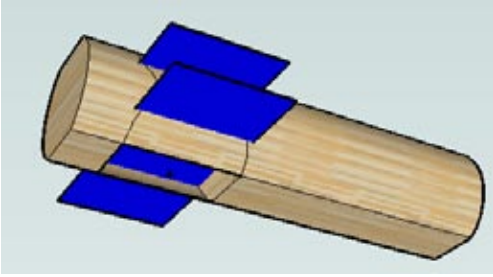

Figure 3-73
13. Do the same on the bottom of the log: remove the lowest face and extend the sides of the next copy. (Yours won't be painted, but I painted mine to make it easier to see, Figure 3-73.)